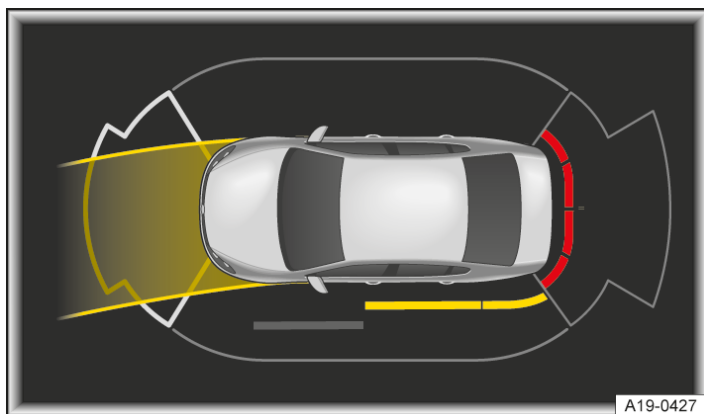

Fig. 1 Infotainment system: Park Distance Control with obstacle recognition and steering wheel angle (illustration).
Park Distance Control detects the distance from an obstacle by means of sensors in the front and rear areas of the vehicle (→ Front view) (→ Rear view). Park Distance Control warns about an obstacle by means of colour segments on the Infotainment system screen and acoustic signals → Fig. 1 , → ①.